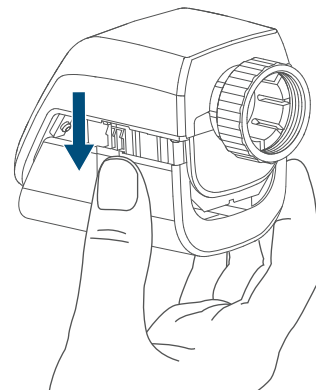

Figure 2
- Press and hold down the system button of the radiator thermostat (D) for at least 4 seconds to activate the pairing mode (see figure 2). The device LED (D) starts to flash orange. Pairing mode remains activated for 3 minutes.
- Press and hold down the system button of the window / door contact with magnet (L) for at least 4 seconds to activate the pairing mode. The device LED (L) starts to flash orange.
- Open the battery compartment **(B)** by pulling the battery compartment down (see „Figure 2“ on page 27).